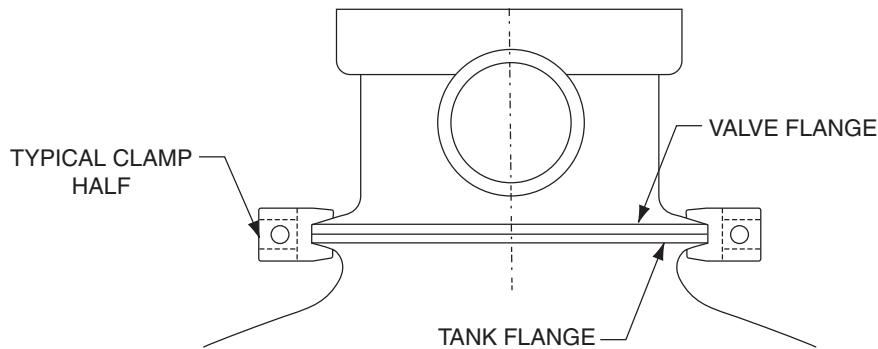
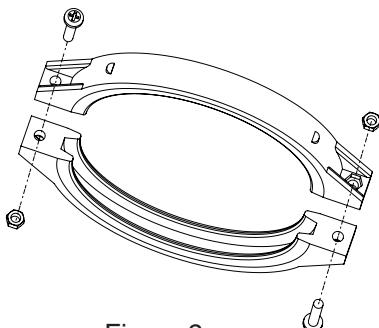

Figure 1.
Figure 2.
- Insure that the valve is firmly pushed into the top of the tank and that the flange of the tank and the flange of the valve are contacting each other. See Figure 1.
- The plastic clamp can now be installed. Place the clamp half over the valve flange and the tank flange as shown in Figure 1. Insert the clamp screws and nuts into the clamp making sure that the nuts are located in the special hexagonal retainer slots on the clamps. See Figure 2.
14. Never store pool chemicals within ten (10) feet of your pool filter, pump or valve. Pool chemicals should always be stored in a cool, dry, well ventilated area.